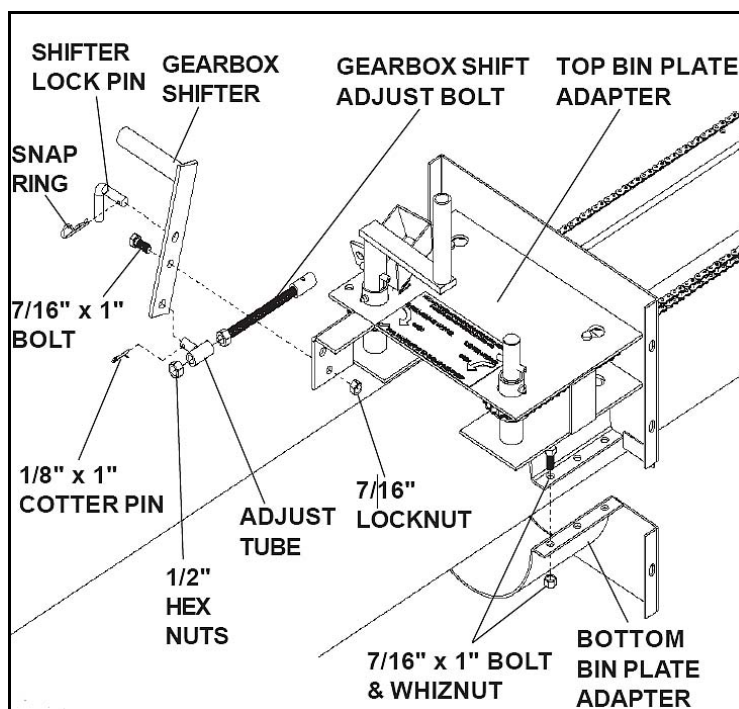

Figure 4.4
3. Assemble gearbox shifter as shown in Figure 4.4. Attach it to top bin plate adapter using a 7/16" x 1" bolt as a pivot. Do not tighten locknut completely, just snug enough to allow free movement of the gearbox shifter.
4. Assemble adjust tube to gearbox shifter as shown in Figure 4.4. Secure adjust tube with a 1/8" x 1" cotter pin.